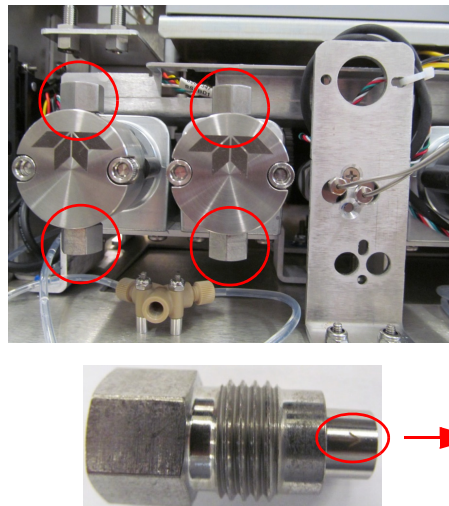

Figure 6-24 Check valve housings (top) and inlet check valve and housing (bottom)
- Using a $\frac{1}{2}$ " wrench, remove the check valve housings from the top and bottom of the pump heads (Figure 6-24). With the check valve housings removed, remove the existing check valve cartridge and install the new check valve cartridge into the housing. Make sure the arrow on the body of the check valve cartridge is pointing upwards in the direction of the flow (Figure 6-24).